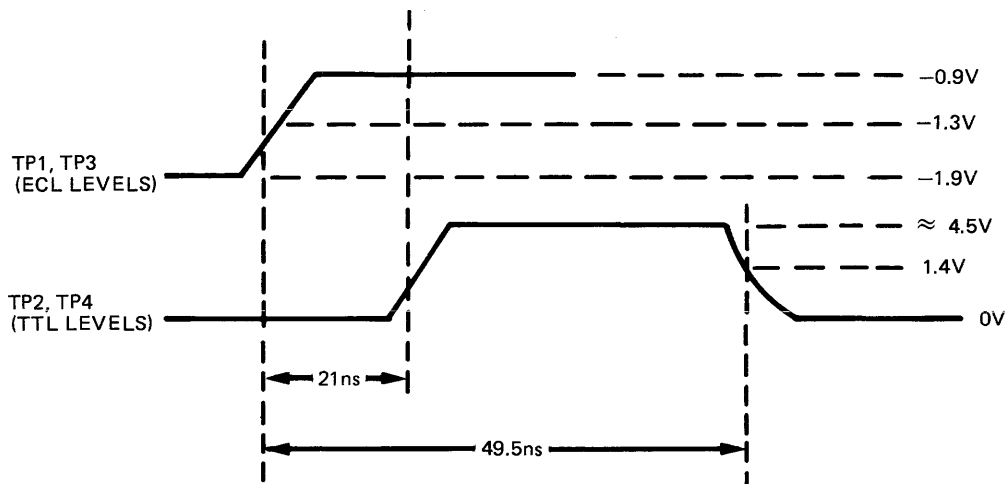

Figure 5-1. Timing Generator Clock Strobe Waveforms
5-10. TIMING ADJUSTMENTS. (See figures 5-1 and 5-8, and schematic 7A.)
- h. Press TRACE key. Oscilloscope should show waveforms in figure 5-1.